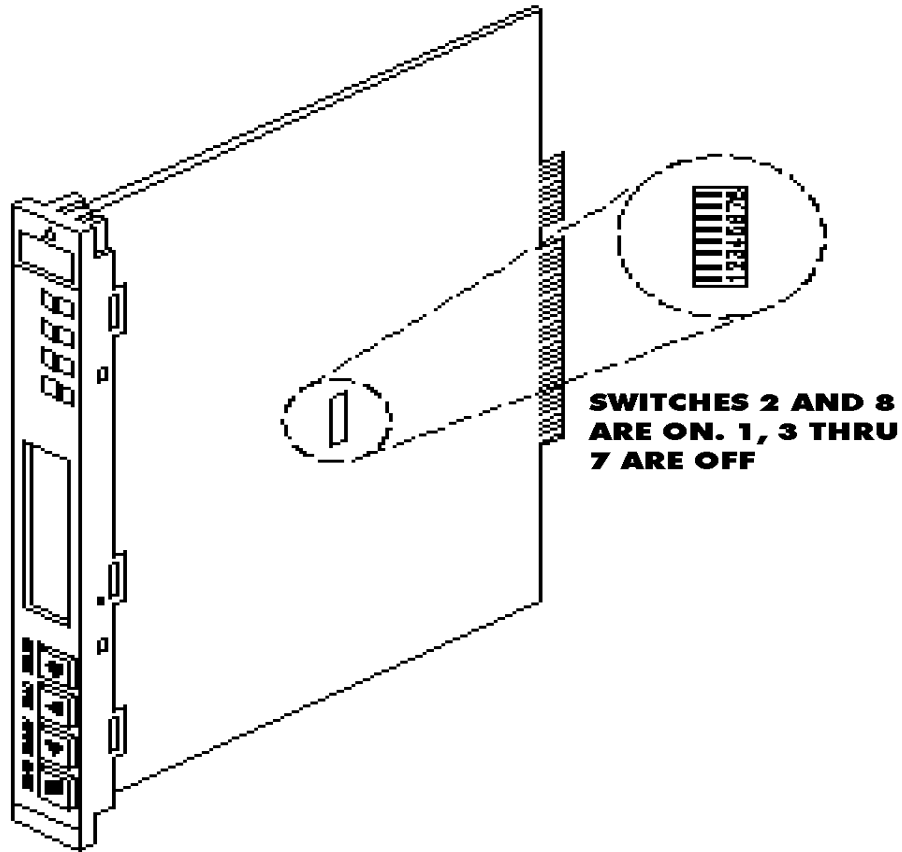

Figure 2 DIP Switch Location
- d. Check/set the DIP switches on the new modem as shown in Figure 2. Switches 2 and 8 are **ON**; all others are **OFF**.